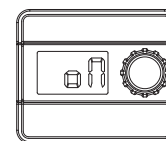

Fig. 45
7.3.1.1 - Long press the knob for 3 seconds, the buzzer will sound, and the screen displays "ON" (See Fig. 45).